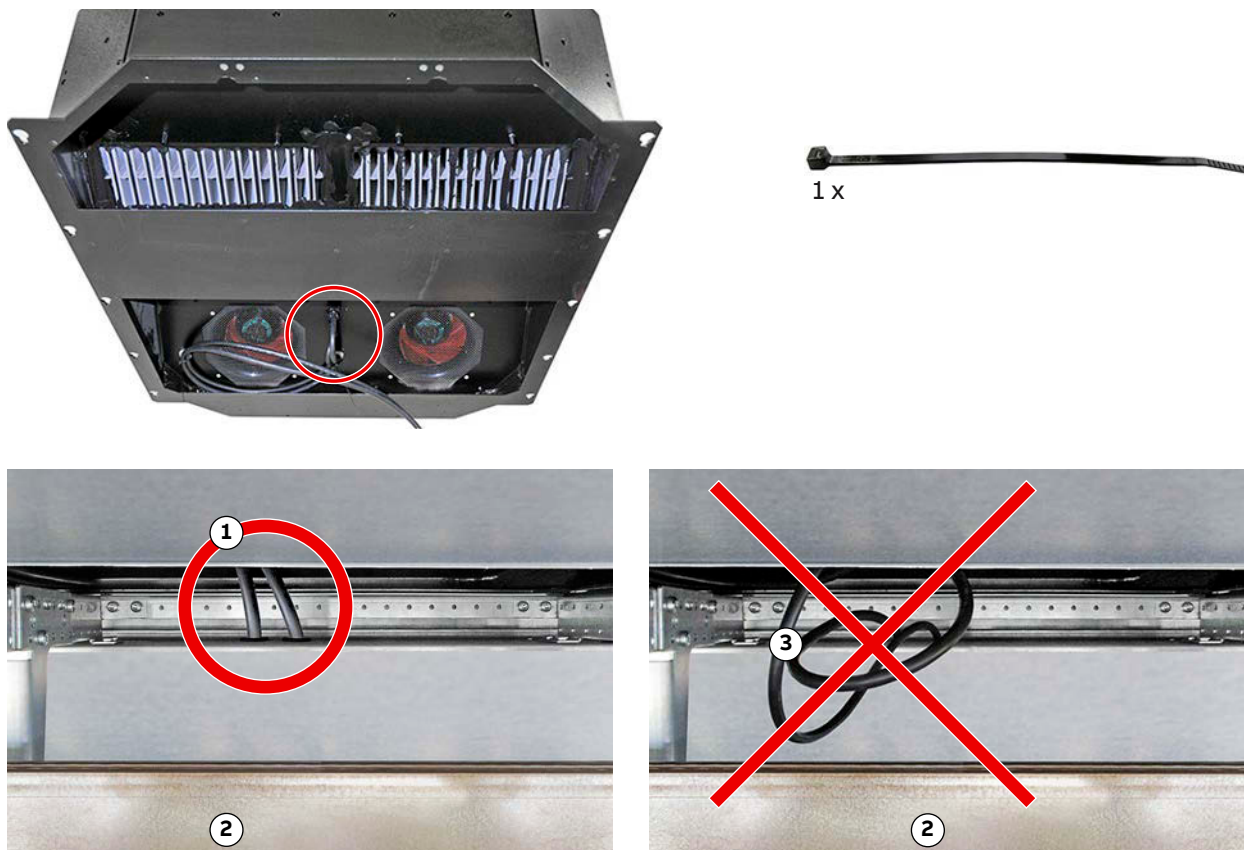

Figure 5–11 Correct and incorrect cable installation
**CAUTION!** Hazardous voltage! Make sure that the heat exchanger cables DO NOT touch the high-voltage carrying DC busbars (2 in Fig. 5–11).